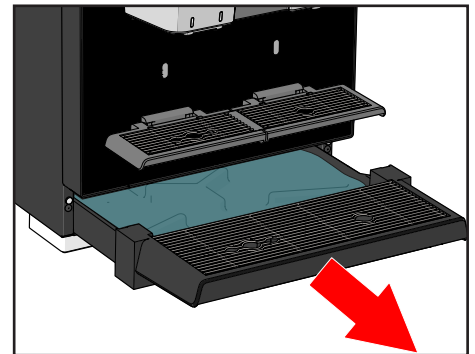

Figure 23.
- Carefully take the drip tray out of the machine (see Figure 23).
13. Carefully remove the drip tray from the machine (see Figure 23). Empty the drip tray and clean the drip tray and the grid with lukewarm water and a brush.